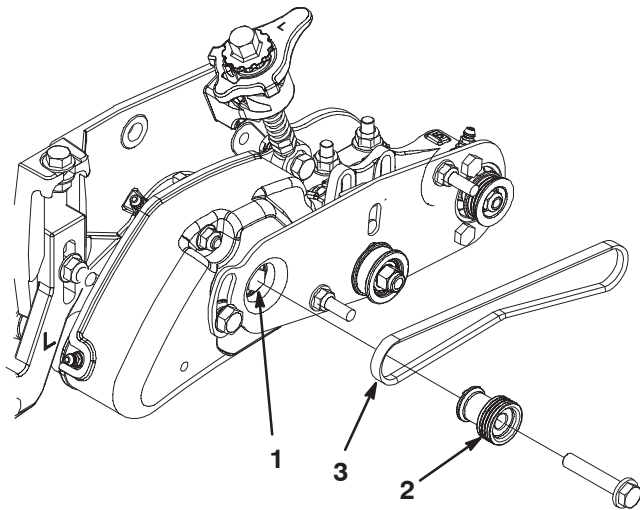

Figure 26
16. Remove the bolt securing the groomer pulley to the drive shaft (Fig. 26).
17. Insert the brush drive pulley into the groomer drive pulley and onto the drive shaft (Fig. 26). Make sure the pulley tabs are positioned in the slot in the drive shaft.
18. Secure the drive pulley to the shaft with a 3/8 x 2 inch flange head bolt (Fig. 26). **Torque the bolt to 35–40 ft–lb.**
19. Install the belt onto the pulleys (Fig. 26 & 28). Make sure the ribs on the belt are properly seated in the grooves in each pulley.